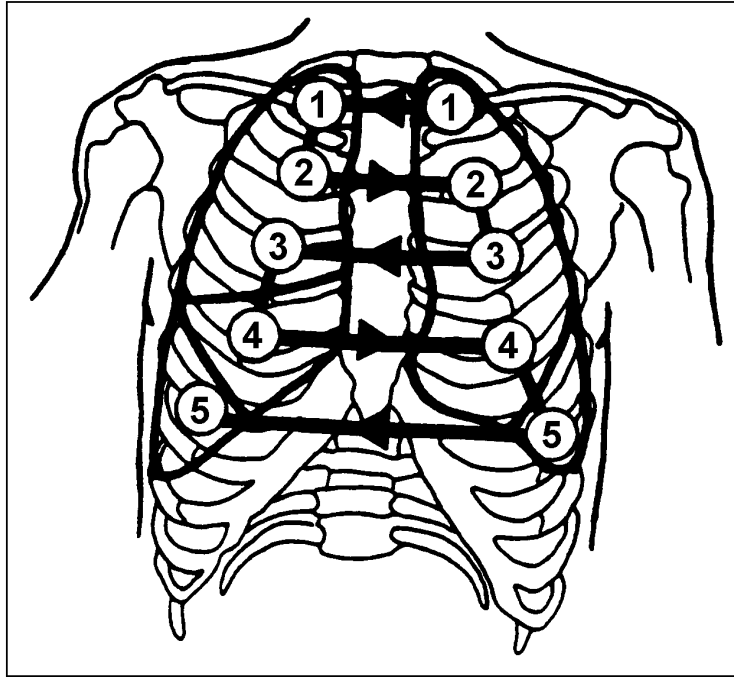

Figure 3-63
- b. Auscultate both anteriorly and posteriorly, covering all lobes. Listen to at least one cycle of inspiration and expiration over each area (lung field). (See Figure 3-63.)